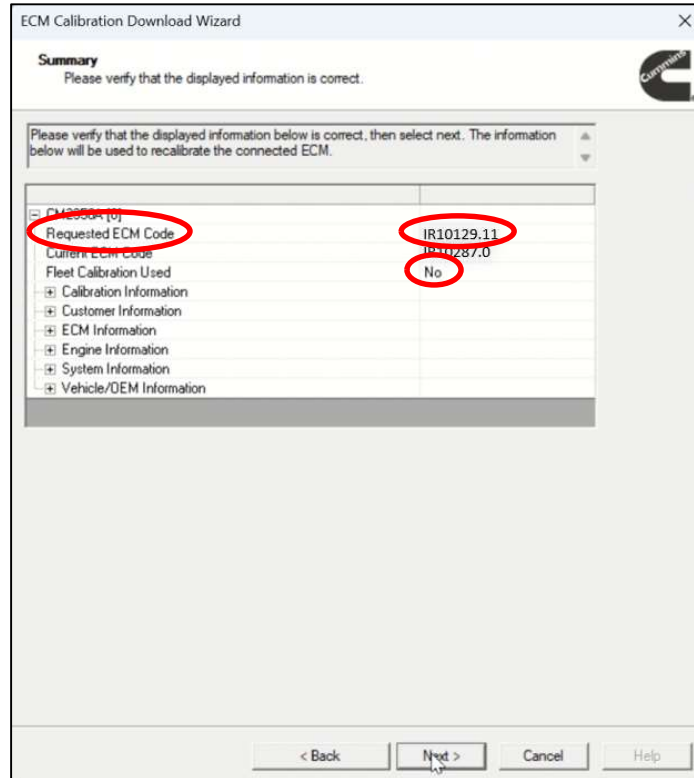

Figure 29
38. Verify the ECM code desired is listed and select next. See figure 29.
Note: Because the bypass calibration being removed has been obsoleted by Cummins, Insite will not require a Fleet Calibration (fleet count) to change the calibration code. If Insite requests a fleet count, confirm your requested ECM calibration code is correct to the engine serial number. See figure 29.